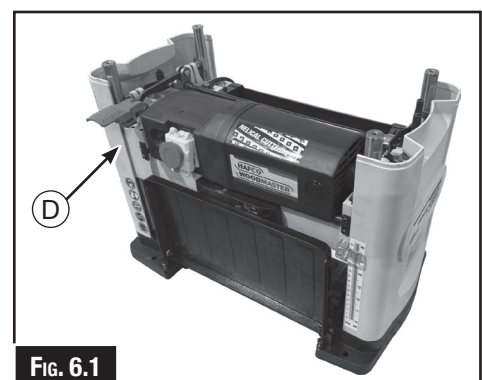

FIG. 6.1
4. Remove the left side panel to expose the gear box cover (D). (Fig. 6.1)